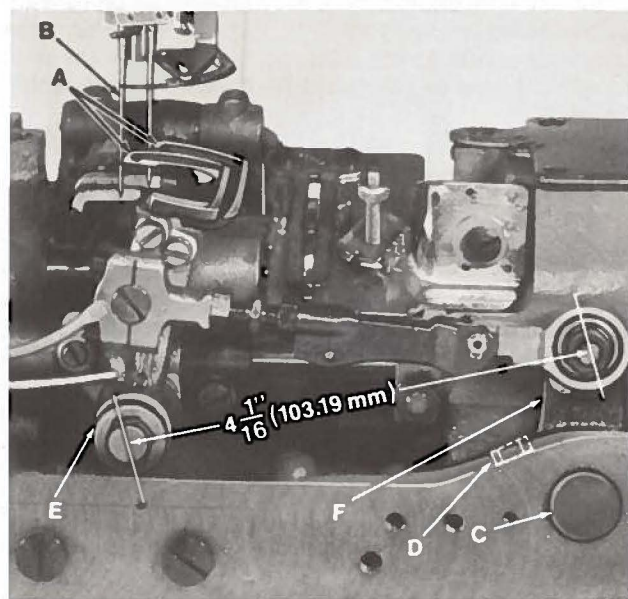

FIGURE 3
Insert the loopers (A, Fig. 3) in the looper rocker, pushing them all the way down and tighten screws against flat on shanks of loopers. Turn handwheel in operating direction until the point of the front looper, moving to the left is even with the left side of the left needle (B). Note the height of the eye of the needle with respect to the looper point, then turn handwheel in the reverse direction until the looper point again moves to the left, and is even with the left side of the needle. If the motions synchronize, the height of the eye of the needle with respect to the looper point will be the same. A variation of .005 inch (.127 mm) is allowable. If the distance from the eye of the needle to the point of the looper is greatest when the pulley is
With the looper at the extreme right end of its travel, check the location of the centerline of the right looper connecting rod bearing, using gauge No. 21227 CX and place hole in gauge over threaded stud. The left end of the gauge should locate against the right side of the looper rocker cone (E). If adjustment is necessary, loosen the clamp screw (D) and reposition the looper drive lever (F) as required. Tighten clamp screw. If gauge is not available, setting can be checked with a scale. The distance between the centerline of the looper rocker cone and the centerline of the looper lever stud should be $4 \frac{1}{16}$ inches (103.19 mm) (Fig. 3).